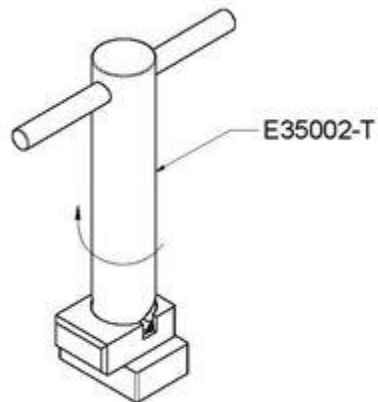

FIGURE 11
- ▶ Move the two locking blocks in the elevator by using the special lock block removal tool (P/N E35002-T) to lift the locking pin and rotate it in the up position (See figures 11 & 12).
- ▶ To re-assemble, slide the proper size bushings in place, rotate the lock bushing pins in the down position (See fig. 11 & 12), then slide the lock blocks towards the inside of the elevator bore until the pins set into place.